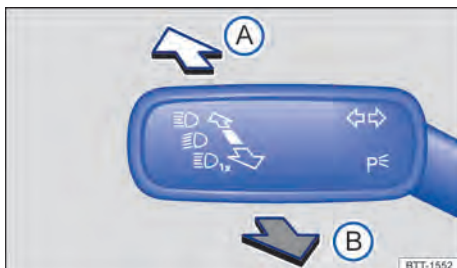

Fig. 79 On the left-hand side of the steering column: direction indicator and high beam lever.
2. Push the lever forwards from the centre position → Fig. 79.
1. Pull the lever back from the centre position → Fig. 79.
1. Pull the lever back from the centre position and hold → Fig. 79.